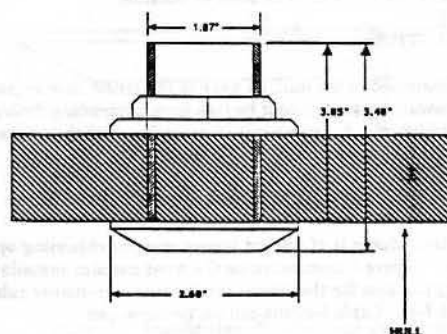

Figure 5. Completed Transducer Installation
- Carefully wipe off excess bedding compound from around transducer flange. Figure 5 shows completed transducer installation.